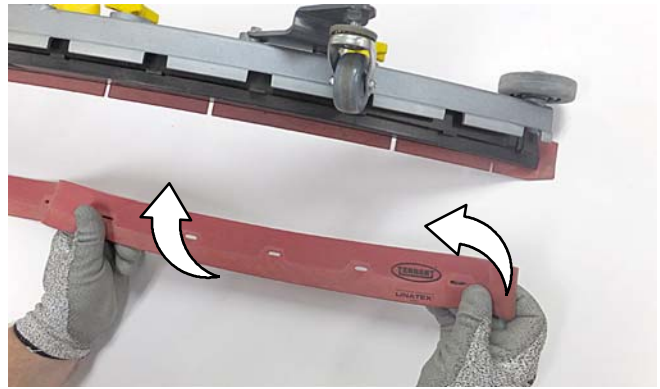

FIG. 148
4. Rotate the rear blade to a new wiping edge and reinstall blade (Figure 148). Make sure to align the slots in the blade with retainer tabs.